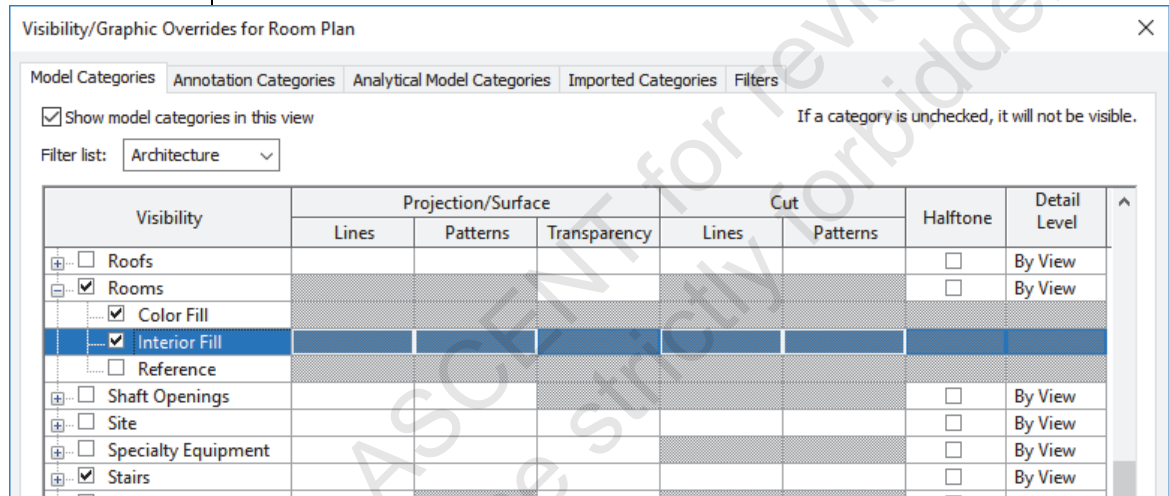

Figure 1–149
10. Select and expand *Rooms* and select **Interior Fill**, as shown in Figure 1–149.